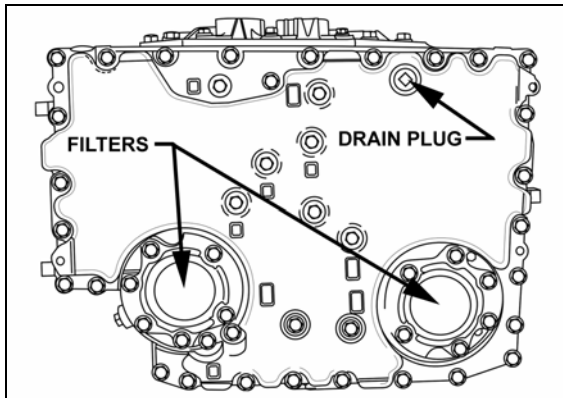

FIGURE 10: PLUG AND FILTERS 07052
2. Remove the drain plug from under the transmission (Fig. 10) and allow the oil to drain into a suitable container. Check the condition of the oil as described previously.
3. To replace the integral filters, remove twelve bolts (6 on each cover), two filter covers, two O-rings, two square cut seals and the two filters from the bottom of the control module (Fig. 10).